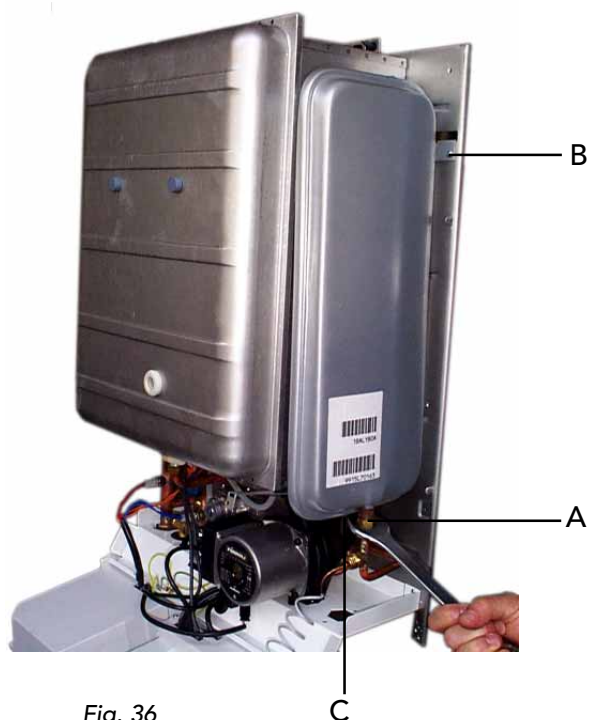

Fig. 36
7.04 Remove and re-presurising of C.H. expansion vessel (fig. 36)